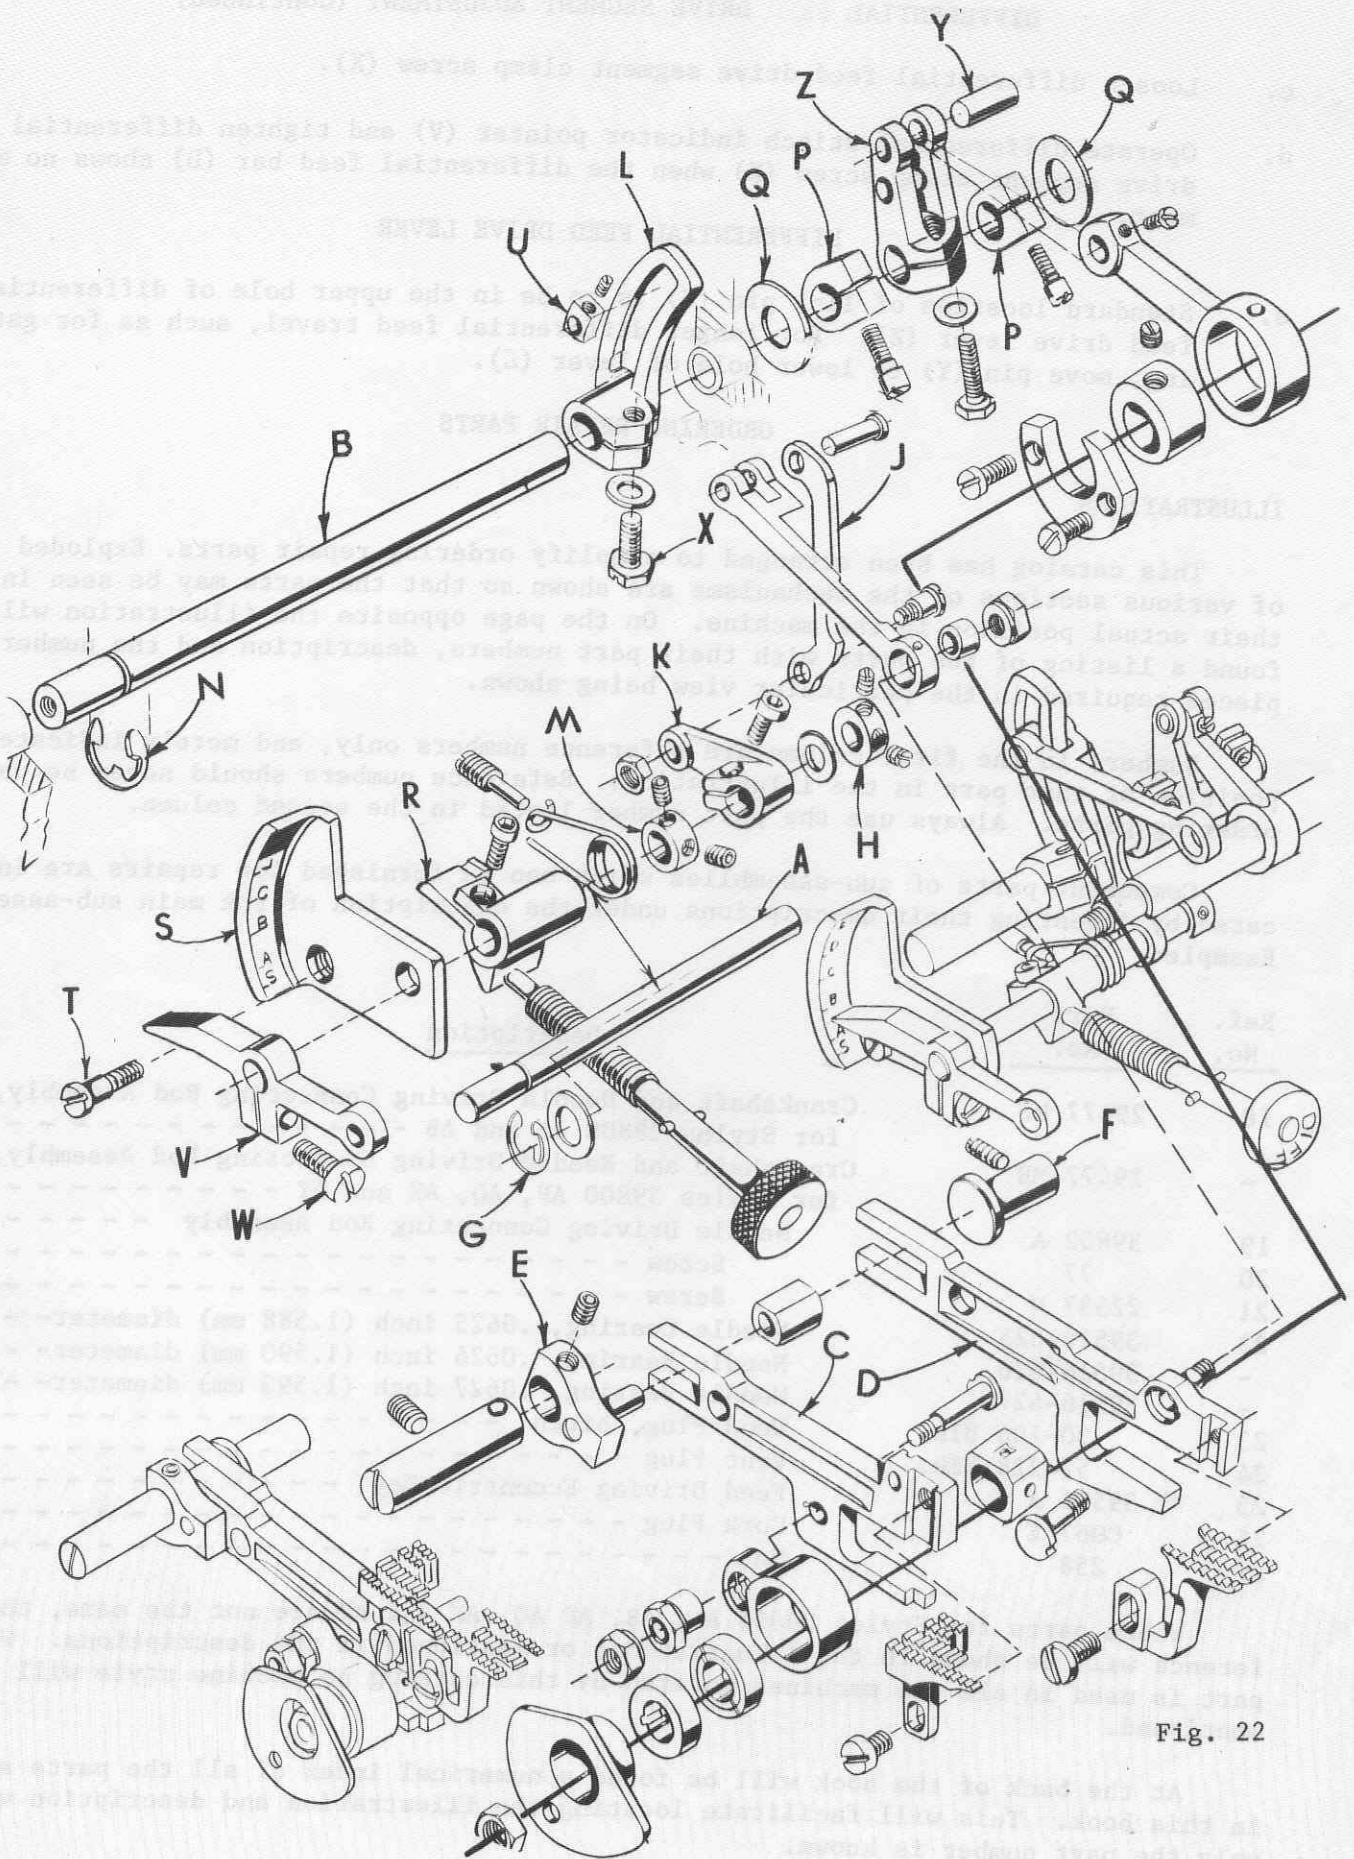

Fig. 22
1. Assemble parts as illustrated to feed control shaft (A, Fig. 22) and feed rock shaft (B); including feed bars.
2. Thrust feed bars (C and D) against differential thrust guide on bed. Align and thrust rear of feed bars with tilt adjusting pin and feed leveling lever (E) and differential feed bar guide (F).
3. Thrust the feed control shaft (A) assuring that retaining ring (G) is flush against the recess in the bed casting. Collar (H) should be thrust against the bed casting and tightened securely.
4. The differential feed control link (J) and differential feed control lever (K) must be in alignment with differential feed drive segment (L) to avoid binding and secured in position by collars (H and M).
5. Feed rock shaft (B) should be positioned with the opening of the retaining ring (N) upwards and thrust against the differential feed drive segment (L). Secure shaft (B) in this position by thrusting collars (P) against thrust washers (Q) against the bed casting.
6. A bind could occur in the differential feed drive lever (K) and differential control lever actuator (R) if the indicator plate (S) is not properly aligned. Oversize holes are provided in plate (S) for its mounting screw (T) to allow repositioning and eliminate binds.